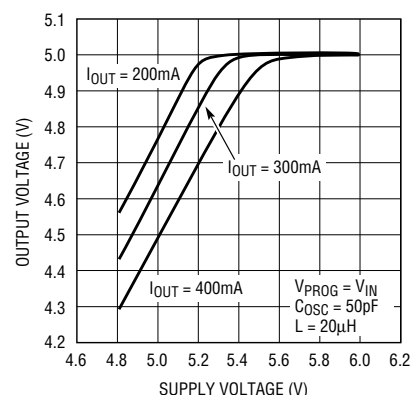

**Figure 6. Dropout characteristics at different load currents for  $V_{OUT} = 3.3V$**
**Figure 6. Aperture jitter in a sampling ADC or jitter in the conversion-start signal applied to the ADC can degrade its noise performance. The time jitter works against the slope of the analog input signal to generate an effective noise voltage that appears in the ADC's output spectrum.**